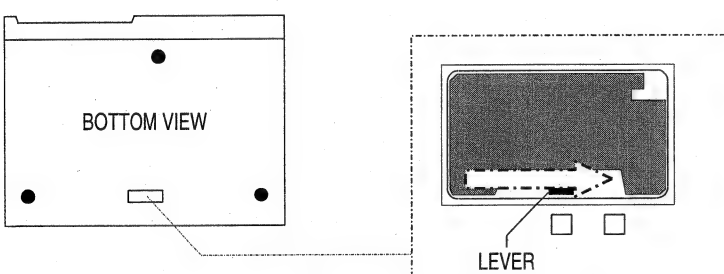

Figure 1
- When the CD changer has a defect while the magazine is still in, the magazine can be removed by moving the emergency eject lever to the right by a small screwdriver, as shown in figure 1 below. First the protection sheet has to be removed. DO NOT FORGET to put the sheet back, to prevent dust intrusion! When a disc is chucked, turn the gear to the right until the slide lever reaches to the edge of the left side (see figure 2).